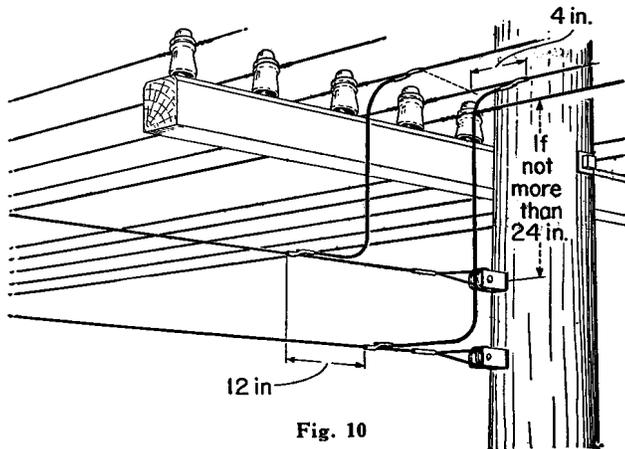

Fig. 10
3.06 A piece of line wire may be used to make the bridling run as shown in Figs. 10 and 11 if the vertical distance is not more than indicated. This method may also be used on the inside of the corner at buck arm corners.